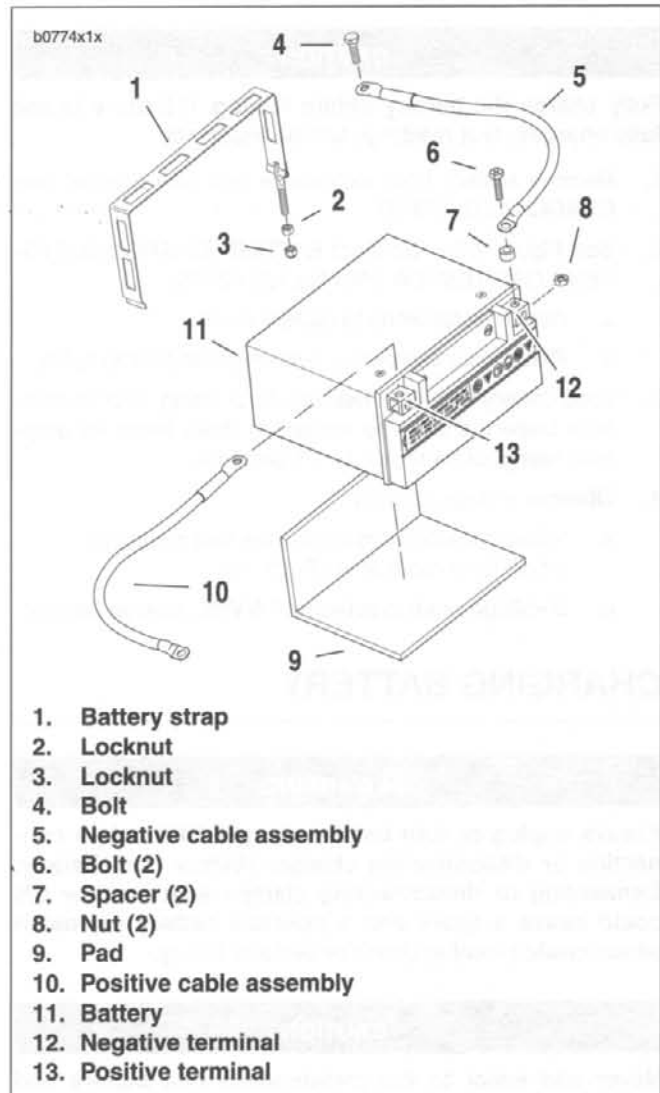

Figure 7-32. Battery
1. See Figure 7-32. Disconnect cables (5, 10) from battery, negative cable (5) first.
- a. Remove bolt (metric) holding negative cable (5) to negative terminal (12). Do not misplace spacer or terminal nut.
- b. Remove bolt (metric) holding positive cable (10) to positive terminal (13). Do not misplace spacer or terminal nut.
- a. See Figure 7-32. Positive battery cable (10) runs from starter to positive battery terminal.
- b. Connect positive cable (10) to positive (+) battery terminal (13) using bolt (metric), spacer and nut.
- c. Connect negative cable (5) to negative (-) battery terminal (12) using bolt (metric), spacer and nut.